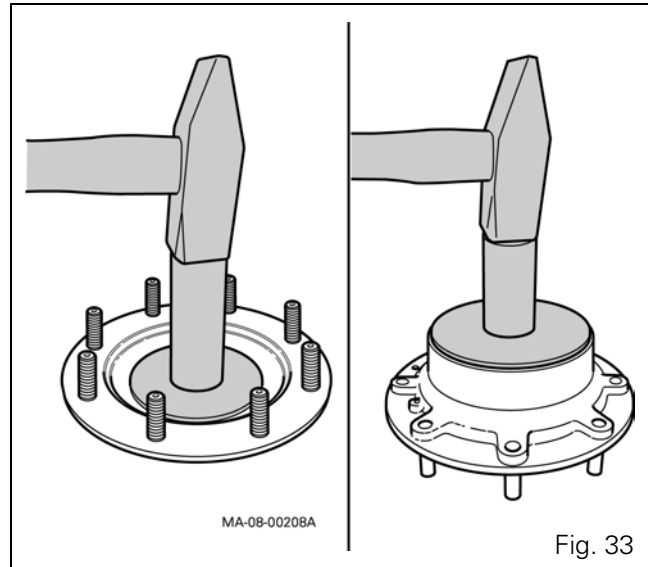

Fig. 33
**37.** Place the wheel hub on a workbench and install the two tapered roller bearing cups using tool ref. CA715118 (see § K) and a press or hammer (Fig. 33). Insert the lip seal into the wheel hub using tool ref. CA715513 (see § K) and a hammer.